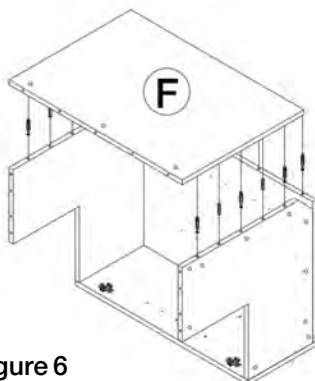
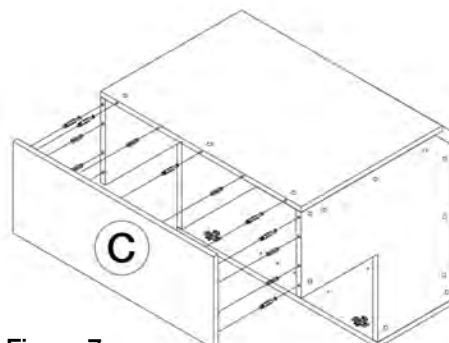

Figure 6
Figure 7
7.Install back panel (F) (Figure 6) side panel (C) onto the assembled panels using the same methods above. (Figure 7)